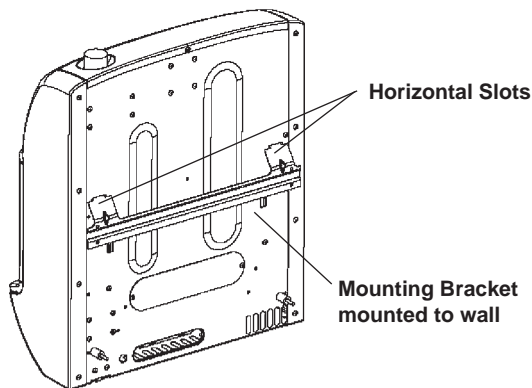

Figure 9.
1. Locate two horizontal slots on back pane of heater (see figure 9).